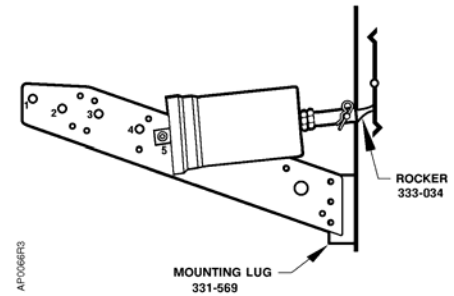

Figure 13. Frame Mounting Normally Closed Damper.
- Normally closed damper: Attach the plate to the lug (Figure 13). Place the pivot post in Hole 5.